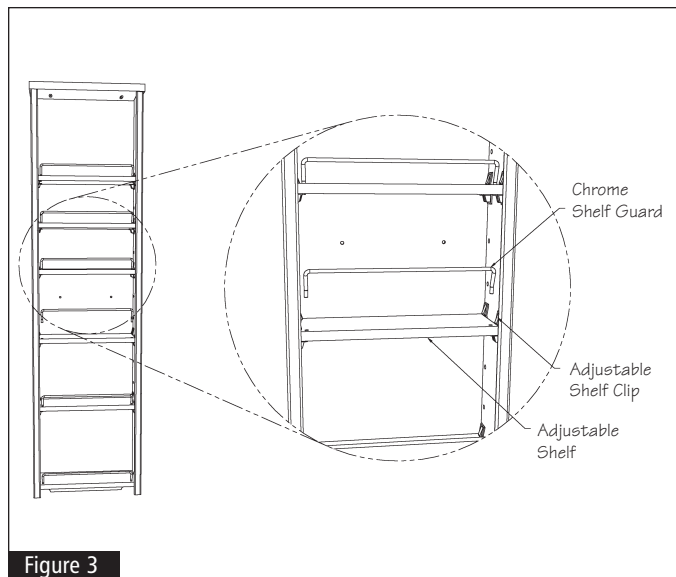

Figure 3
- 7** Erase all other pencil marks previously made. Insert the Chrome Shelf Guards into the pre-drilled holes for each shelf. Place the adjustable shelf clips in the holes on the inside of the door shelf assembly at the desired locations. Place the shelves into the shelf clips by pressing down on the shelf. See Figure 3.